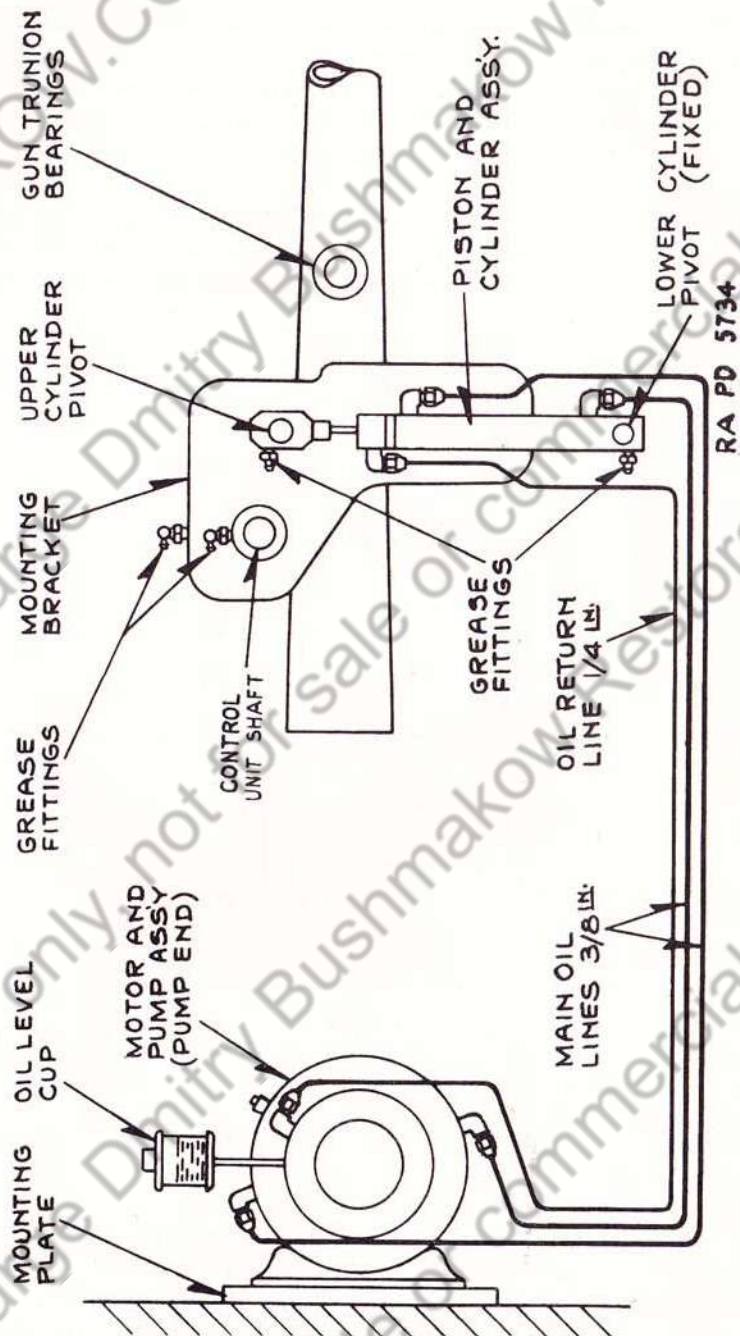

FIGURE 80.—Lubrication system.
(2) Check for free movement in the mounting of the piston and cylinder assembly.
(3) Tighten the packing gland on the oil pump shaft by removing the cover plate and turning the packing gland nut in a clockwise direction with a screw driver. Do not get it too tight.
(4) Lubricate the four alemite fittings shown in figure 80.
(5) Check all external electrical connections to see that they are tight.
(6) Check all oil line connections.
(7) Check for presence of air in the oil system.
(11) Reconnect all wiring by colors to the same connections from which the damaged ones were removed.
*e. Replacing grease fittings.*—(1) The grease fittings are of the alemite type and are located as follows (fig. 80) :
- (2) These fittings may be replaced by unscrewing and replacing with new ones.